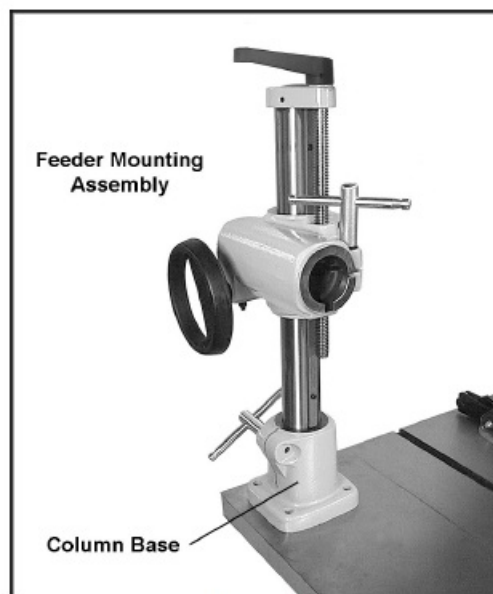

Figure 3
1. Rest the feeder mounting assembly on the table of the auxiliary machine to determine the mounting location. (Figure 3 shows it being mounted to a table saw). Keep in mind the length of the over arm, so that after it is connected to the feeder mounting assembly it will have enough adjustment for positioning the stock feeder where needed. Mark the table if needed to identify the position.